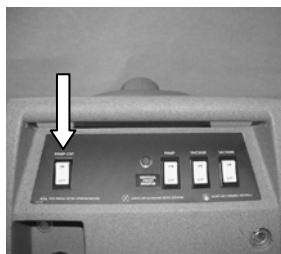

Fig. 4
2. Turn on empty-out pump (Figure 4). The discharge pump will not come on until the level inside the recovery tank activates the float switch. Note: the "Auto Discharge" switch must be turned on in order for the discharge pump to cycle on and off.